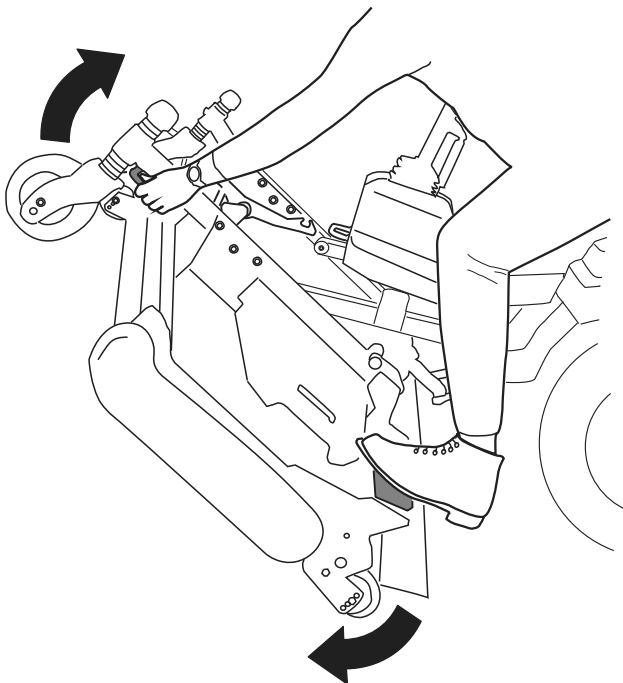
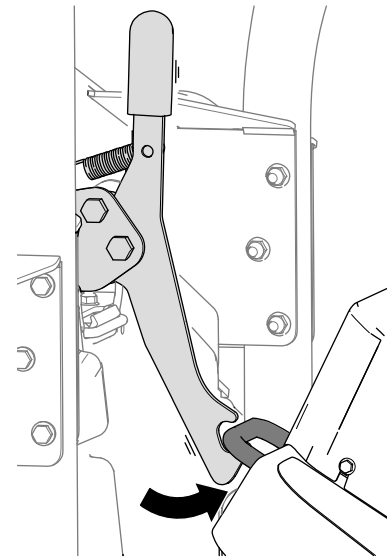
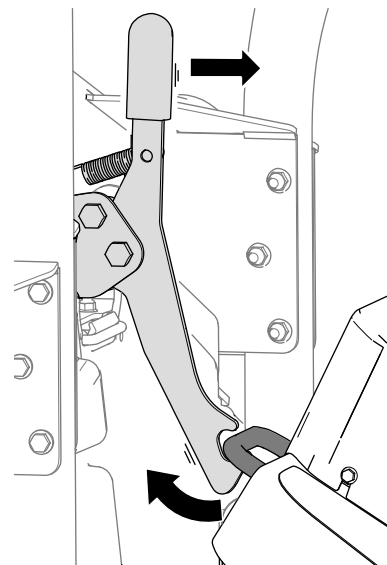

Figure 37
Figure 38
Figure 39
5. Rotate the cutting unit (Figure 37) so that the latch engages with the tie-down bracket (Figure 38).
1. Release the cutting-unit latch from the tie-down bracket (Figure 39) by slightly rotating the cutting unit slightly forward (refer to Figure 37) and pulling the latch handle forward.